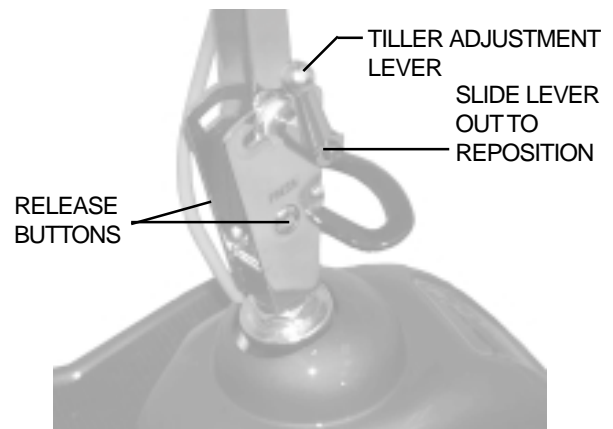

FIGURE 10A. ADJUSTING THE TILLER ANGLE (TILLER BOOT REMOVED)
2. Press the release buttons and move the tiller to a comfortable position. See figure 10A.